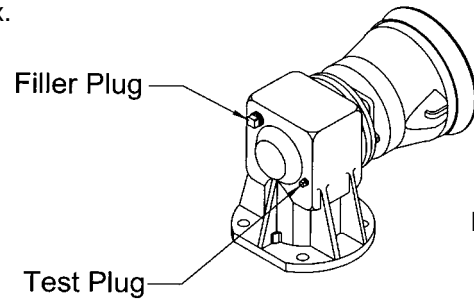

Figure 8
2. Remove filler and test level plug (see figure 8 for location of plugs).